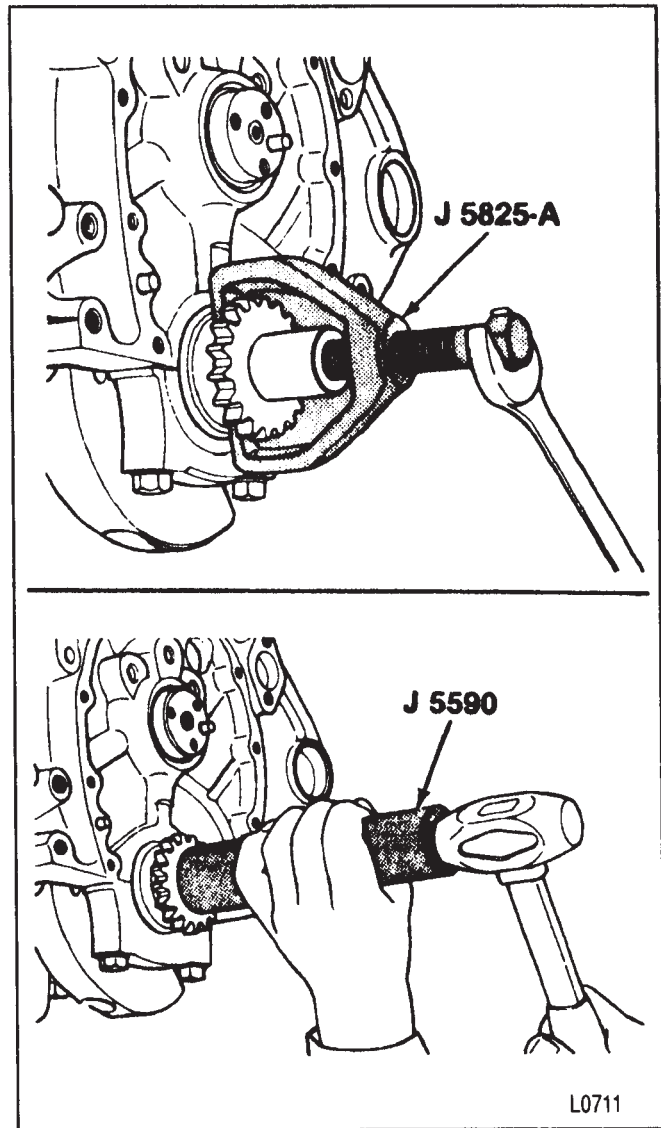

Figure 21—Replacing the Crankshaft Sprocket
2. Bolts (30).
4. Crankshaft sprocket (if required) using J 5825-A (figure 21).
1. Crankshaft sprocket (if removed) using J 5590 (figure 21).